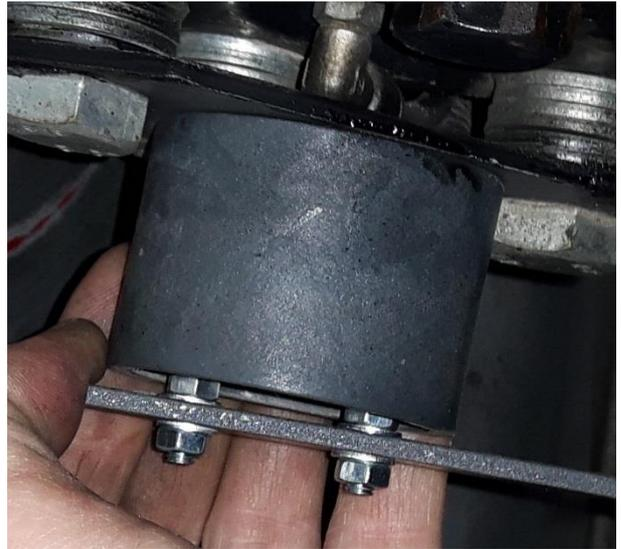
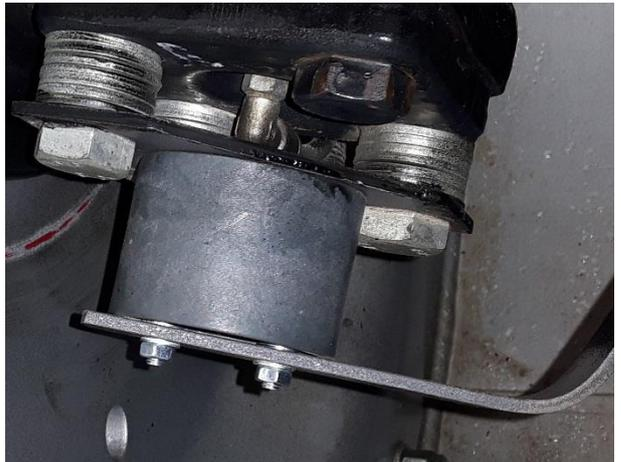

FIGURE 28 CENTRE AND FRICTION CHECK OF WHEEL ANGLE SENSOR.
FIGURE 29 CORRECT MOUNTED WHEEL ANGLE SENSOR.
9. Make sure the sensor disc falls nice and flat into the sensor housing and the strip also lies flat and under tension on both sides of the disc positioned against the sensor housing. Press with your thumb against the end of the strip and check if the strip bounces back easily without friction (Figure 28 and Figure 29). The sensor disc may only have a little bit of friction in the sensor housing.
16. Check again if the sensor disc lies under slight pretention against the sensor housing (Figure 28). Push with your thumb to the end of the wheel angle sensor strip to check this. The sensor disc may only have a little bit of friction in the sensor housing. The sensor disc should bounce back easily and without friction (Figure 29).